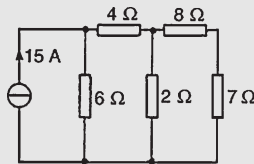

Figure 13.62
**Problem 17.** Determine the current flowing in the  $2\Omega$  resistance in the network shown in Fig. 13.62.